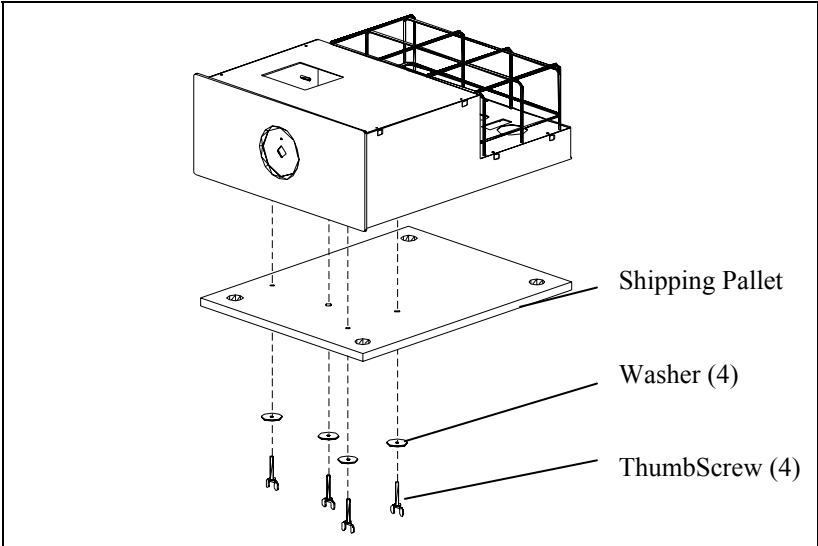

Figure 1
1) *Remove Shipping Pallet* - The amplifier is shipped attached to a shipping pallet. This pallet serves two purposes. First, and foremost it acts to tie down the mechanically isolated transformer platform. Secondly, it provides strength to the main chassis. Both of these items are critical to ensure that no damage occurs in transit. After removing the amplifier from the box and packing material, CAREFULLY turn the unit upon its side. Remove the 4 thumbscrews and washers. Retain these screws and pallet in the event that the unit ever needs servicing. See Figure 1.